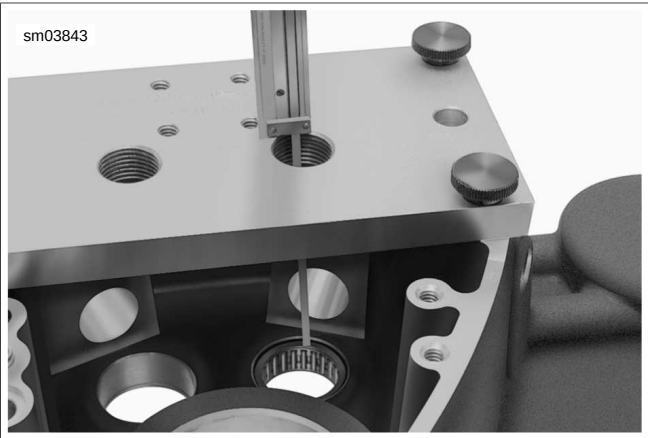

Figure 3-108. Measure from Top of Support Plate to Edge of Needle Bearing
- c. See Figure 3-108. Insert dial caliper through forcing screw bore and measure distance from top of support plate to edge of needle bearing.